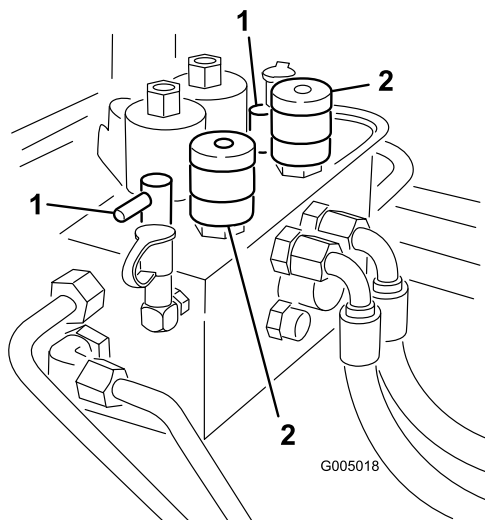

Figure 85
3. Locate the reel speed selector knobs and backlap knobs (Figure 85). Rotate the desired backlap knob(s) to the backlap position and the desired reel speed selector knob(s) to position 1.